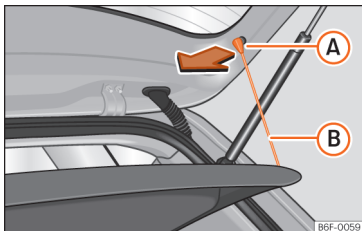

Fig. 169 In the boot: removing and installing the shelf.
- Detach the cord loops >>> **Fig. 169** (B) from their hooks (A).
- Attach the securing straps >>> **Fig. 169** (B) onto the rear lid.